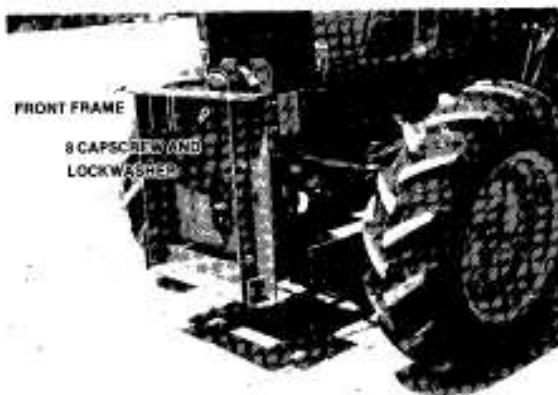

FIG. 5
(d) Mount front frame to tractor using eight 10 mm x 20 mm capscrews and lockwasher through tapped holes in cross piece. Secure frame to right and left hand side frames using two 1/2 - 13 x 1 1/4" bolts, lock washers and nuts. Tighten all bolts securely. (See fig. 5).
- Fasten the front shield in place (see fig. 5). Note that the receptacle for the upper shield must be at the bottom.